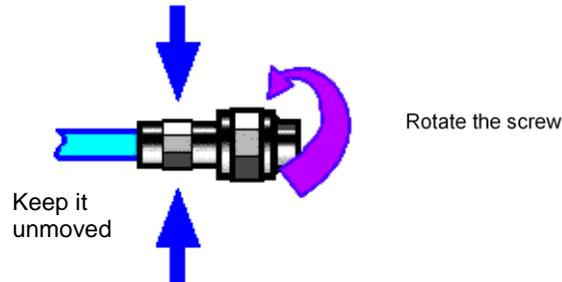

Fig. 3.5 Diagram - Rotating Connector
Step 2. As shown in Fig. 3.5, move both connectors straight together, so that they can be connected smoothly; rotate the threaded sleeve of connector (rather than the connector itself) until it is tightened; during connection, there can be no relative rotary motion both connectors;